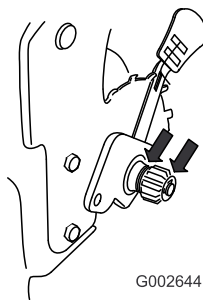

Figure 45
2. Apply a lubricating oil to the inner and outer sides of the gear as shown in Figure 45.